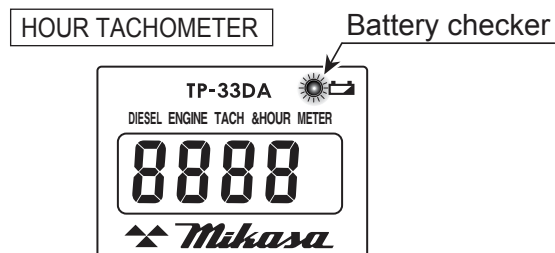

Figure 29. Battery Check
1. Check the battery checker on the hour tachometer (Figure 29).